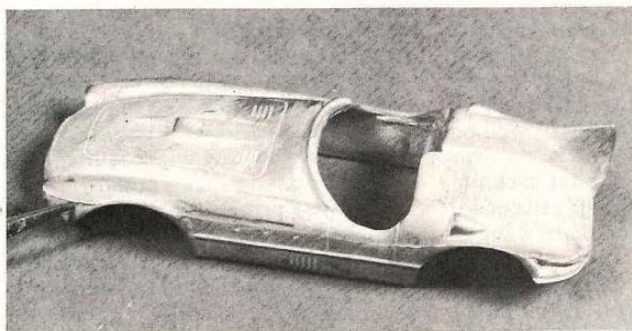
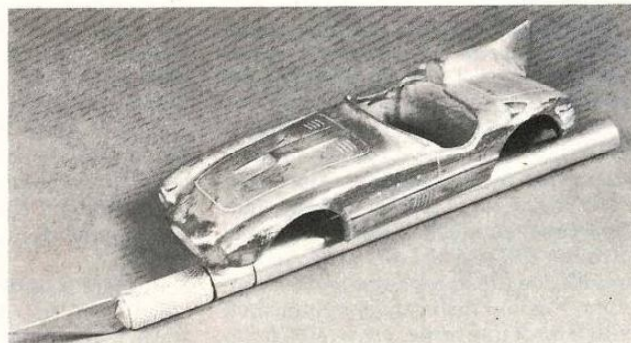

Fig. 3. The mold line running around the body (above the file point) must be removed — needle files in various shapes work well for this operation.
Fig. 4. The body casting after filing. The next step is sanding with No. 320 wet-or-dry sandpaper.
**Cleaning the parts.** The first step in building a metal kit is to clean up the castings, Fig. 3. There are usually mold lines to remove, and if the mold was overfilled, there may be flash, Fig. 4. Mold lines should be filed off — X-acto makes files in various shapes that work well. The metal is soft, so take care not to remove too much. After filing, sand with No. 320 and No. 400 sandpaper to smooth the file marks and restore contours, Fig. 5. Flash can be trimmed off with a modeling knife. I save old blades because those that are too dull for plastic still cut the soft metal quite well.